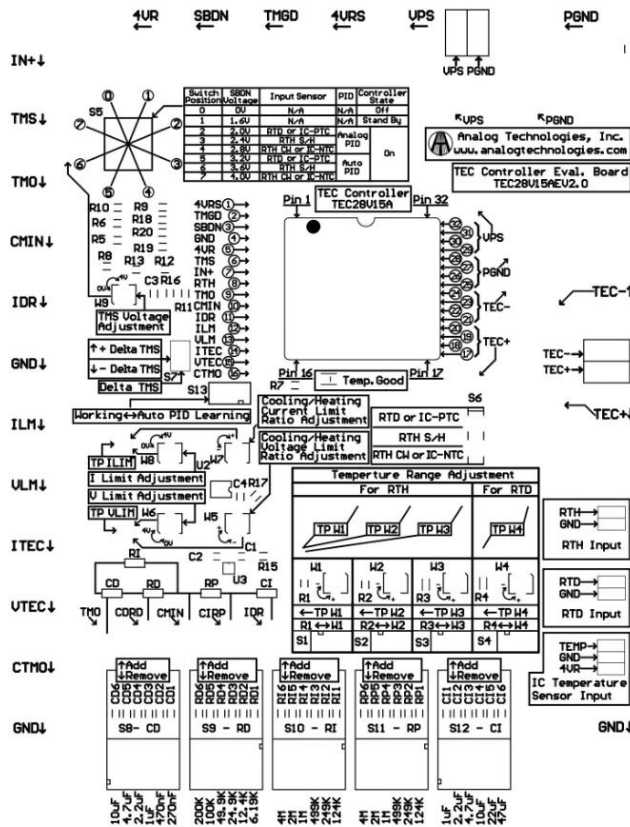

Figure 6. Top Silkscreen
The silkscreen layer of the evaluation board is shown in Figure 2 with other top layers, including top silkscreen, top copper, top solder mask, and multilayer (vias). Figure 6 only shows the image of top silkscreen layer. There is no component in the bottom side of the board, so that there is no bottom silkscreen layer image.
3. After tuning, the values of the capacitors for  $C_D$  and  $C_1$  can be read off the capacitor selection switches. The values of the resistors,  $R_I$ ,  $R_d$  and  $R_P$ , can be measured by an Ohmmeter by connecting to the resistor pins. As seen in the photo of Figure 6,  $R_I$  can be read off between TMS and CMIN test points;  $R_D$  can be read off between CMIN and CDRD test